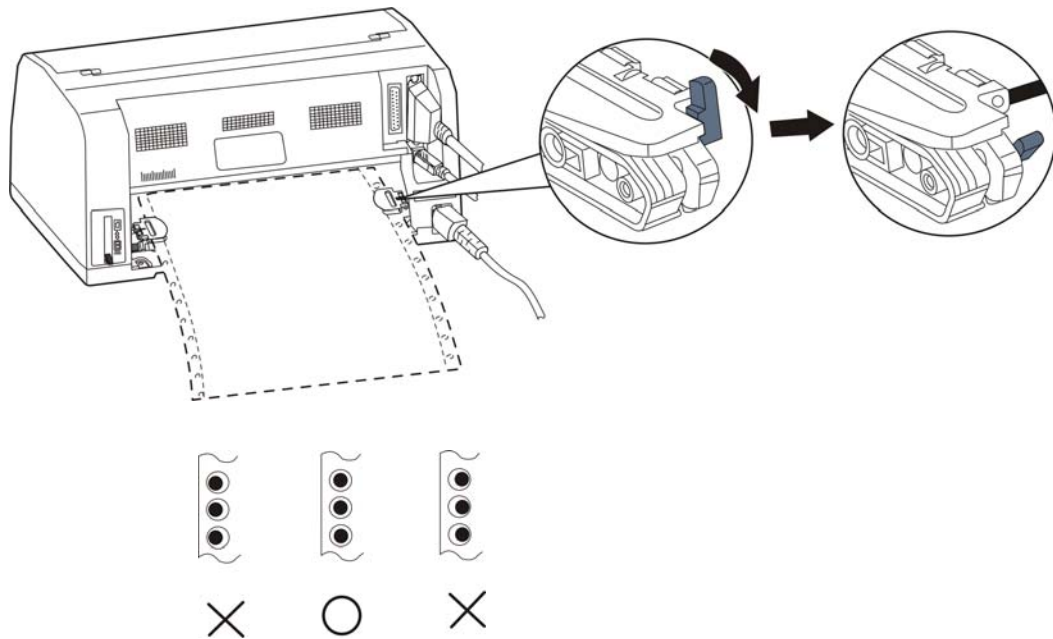

Figure 3-12 Adjusting the right tractor position
7. Close the sprocket covers and adjust the right tractor to ensure the paper is flat. Then press down the lock lever. (As Figure 3-12 shown)